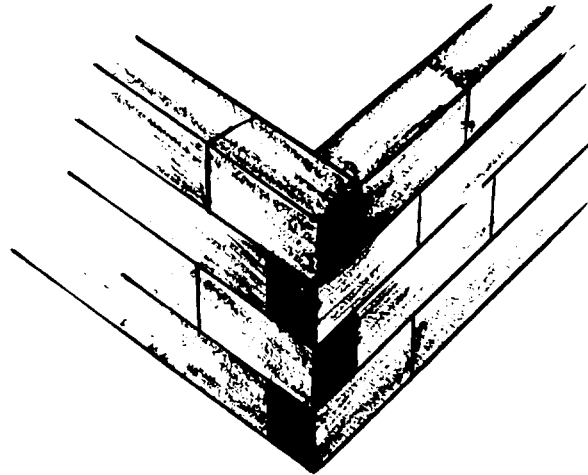

Figure 4-18 Ice-crete and Snow Defences - Wall Building
1. The following are some items that tent groups will have or can get to build walls and forms (see Figure 4-18).